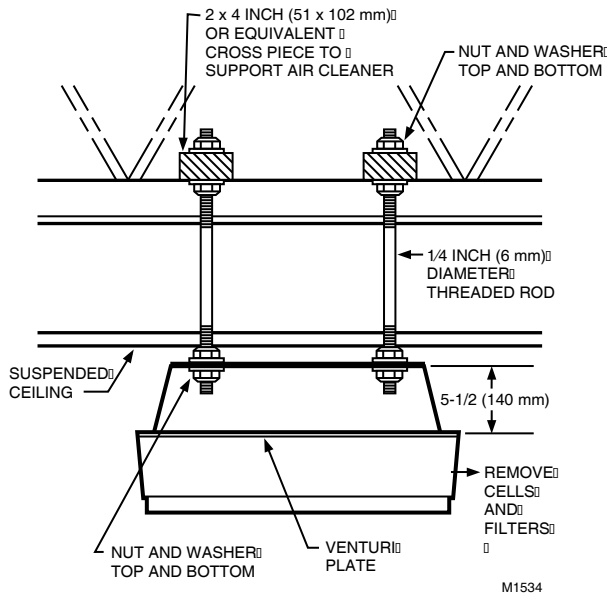

Fig. 9. Mounting the F90 using steel rods in suspended ceiling applications.
- Mounted into a suspended ceiling using threaded steel rods. See Fig. 9.